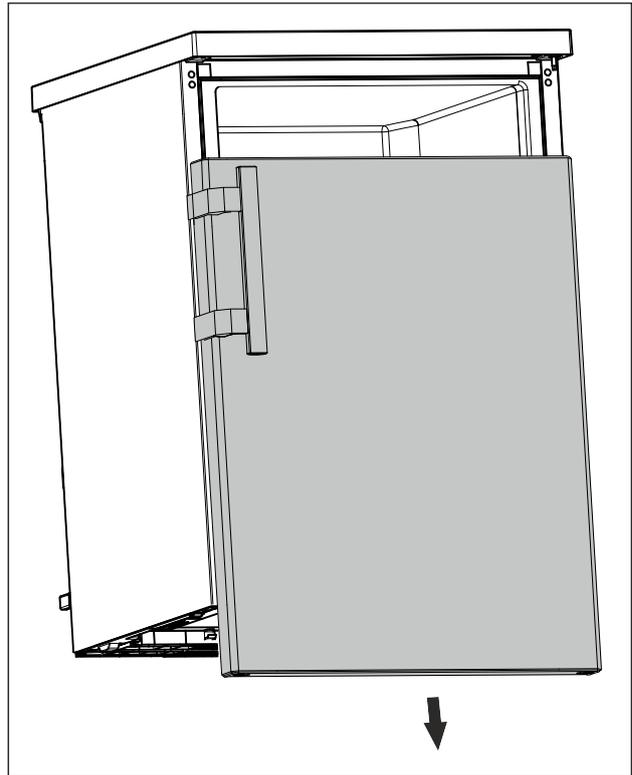

Fig. 15
- ▶ Remove the door downwards. (see Fig. 15)